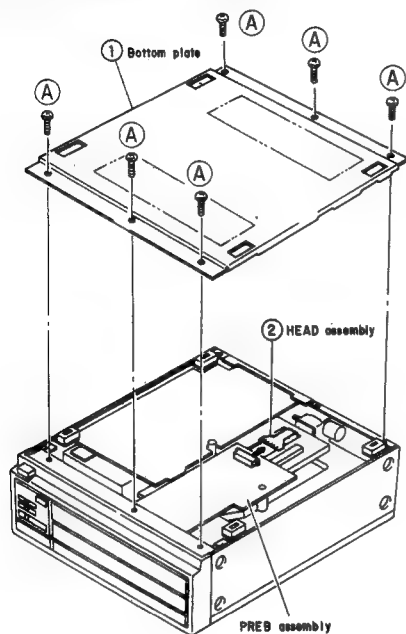

Fig. 7-1
7.1 HOW TO REPLACE THE PICK-UP ASSEMBLY (Fig. 7-1 ~ 4)
- ① Remove the six screws (A) to remove the bottom plate.
- ② Remove the flexible board (HEAD assembly) of the pickup assembly from the PREB assembly.